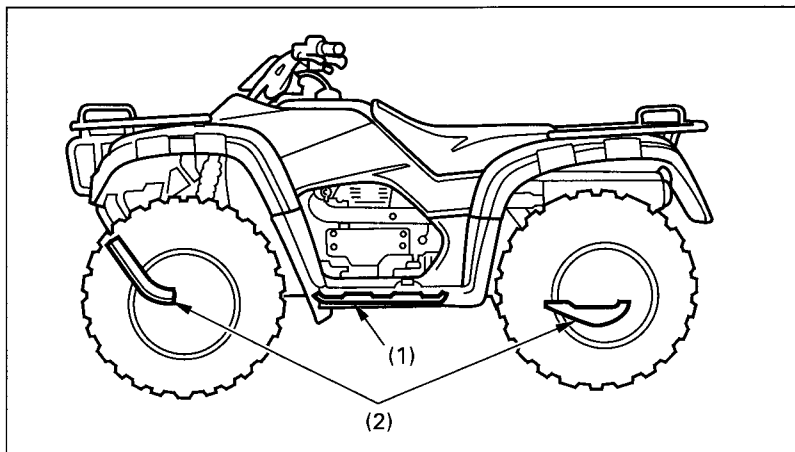

Fig. 4-38 (1) Engine guard
The engine guard (Fig. 4-38) protects the engine crankcase. The skid plates (2) protect the frame and rear final gear case. Check the guard and plates for cracks, damage or looseness at intervals shown in the Maintenance Schedule (page 96–97). Replace the guard and plates with new ones if they are cracked or damaged. If the guard and plate bolts are loose, tighten them securely.